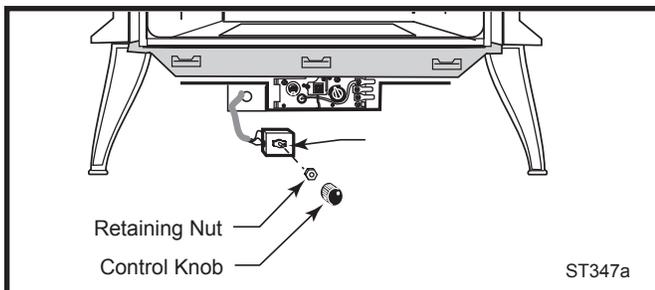

Fig. 12 Attach rheostat to left side of valve.
8. The rheostat control switch attaches to the left side of the valve bracket at the front of the stove. (Fig. 12)